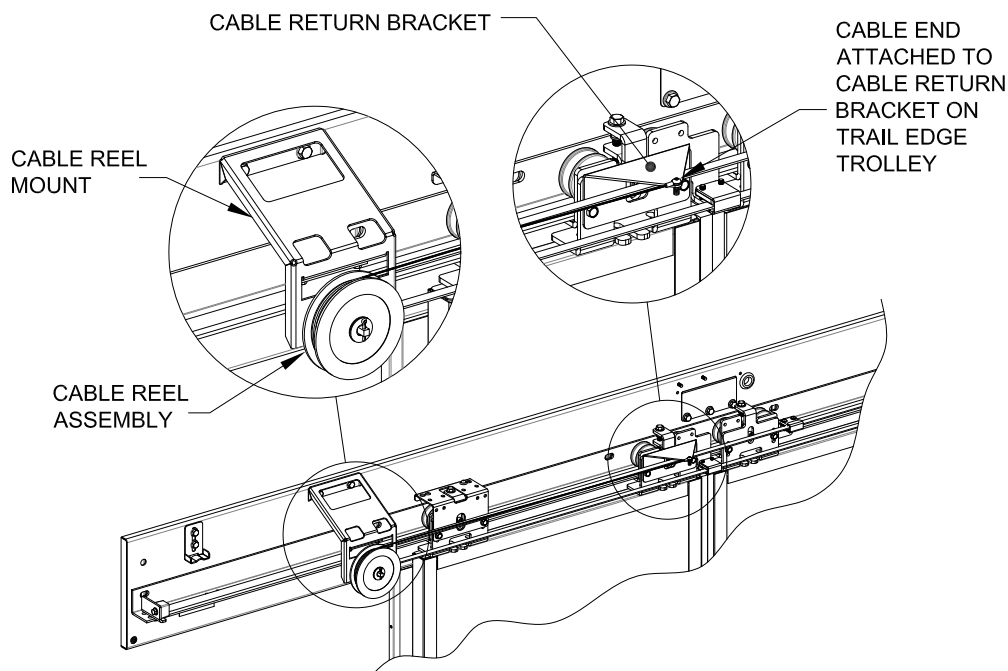

Figure 11: Cable Reel Adjust & Closed Door Position
1. Tension Cable is attached from Cable Reel to Cable Return bracket on lead edge Trolley (Figure 11). To adjust tension on cable, rotate cable reel manually to create slack on cable, and increase the number of windings of cable on the Cable Reel (Increases tension), or reduce the number of windings of cable on the Cable Reel (Decreases tension).